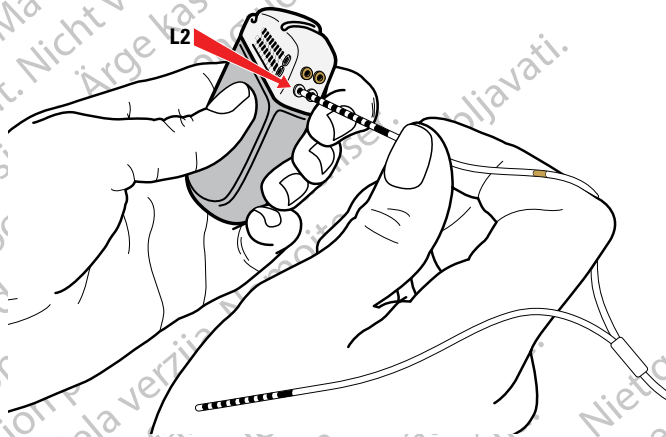

Figure 39. Connection to IPG Port L2
- a. For bifurcated Lead Extension (DB 3128): Connect the tail with the gold marker band to the port labeled L2 (Figure 39).